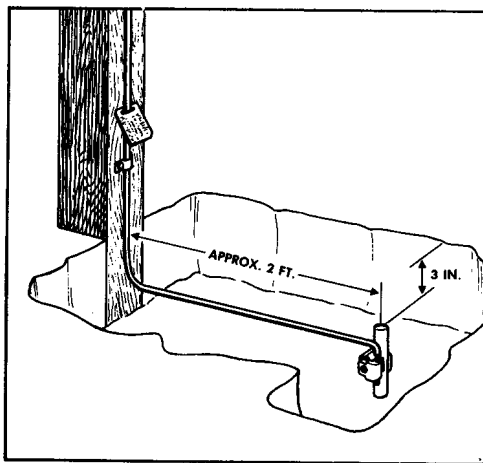

FIGURE 33. Ground Rod Installation Near Pole
- d. Approximately 2 feet from the base of wooden poles or posts, where conditions permit. See Figure 33.